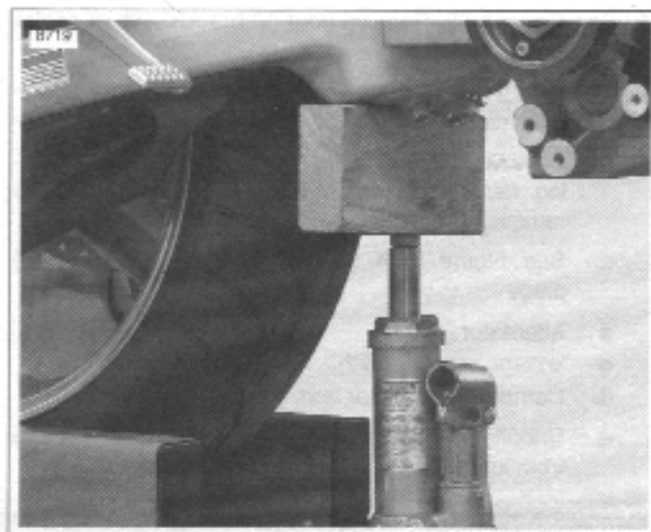

Figure 3-27. Supporting the Swingarm
35. See Figure 3-27. Support swingarm/oil tank with wooden blocks, jack, etc.